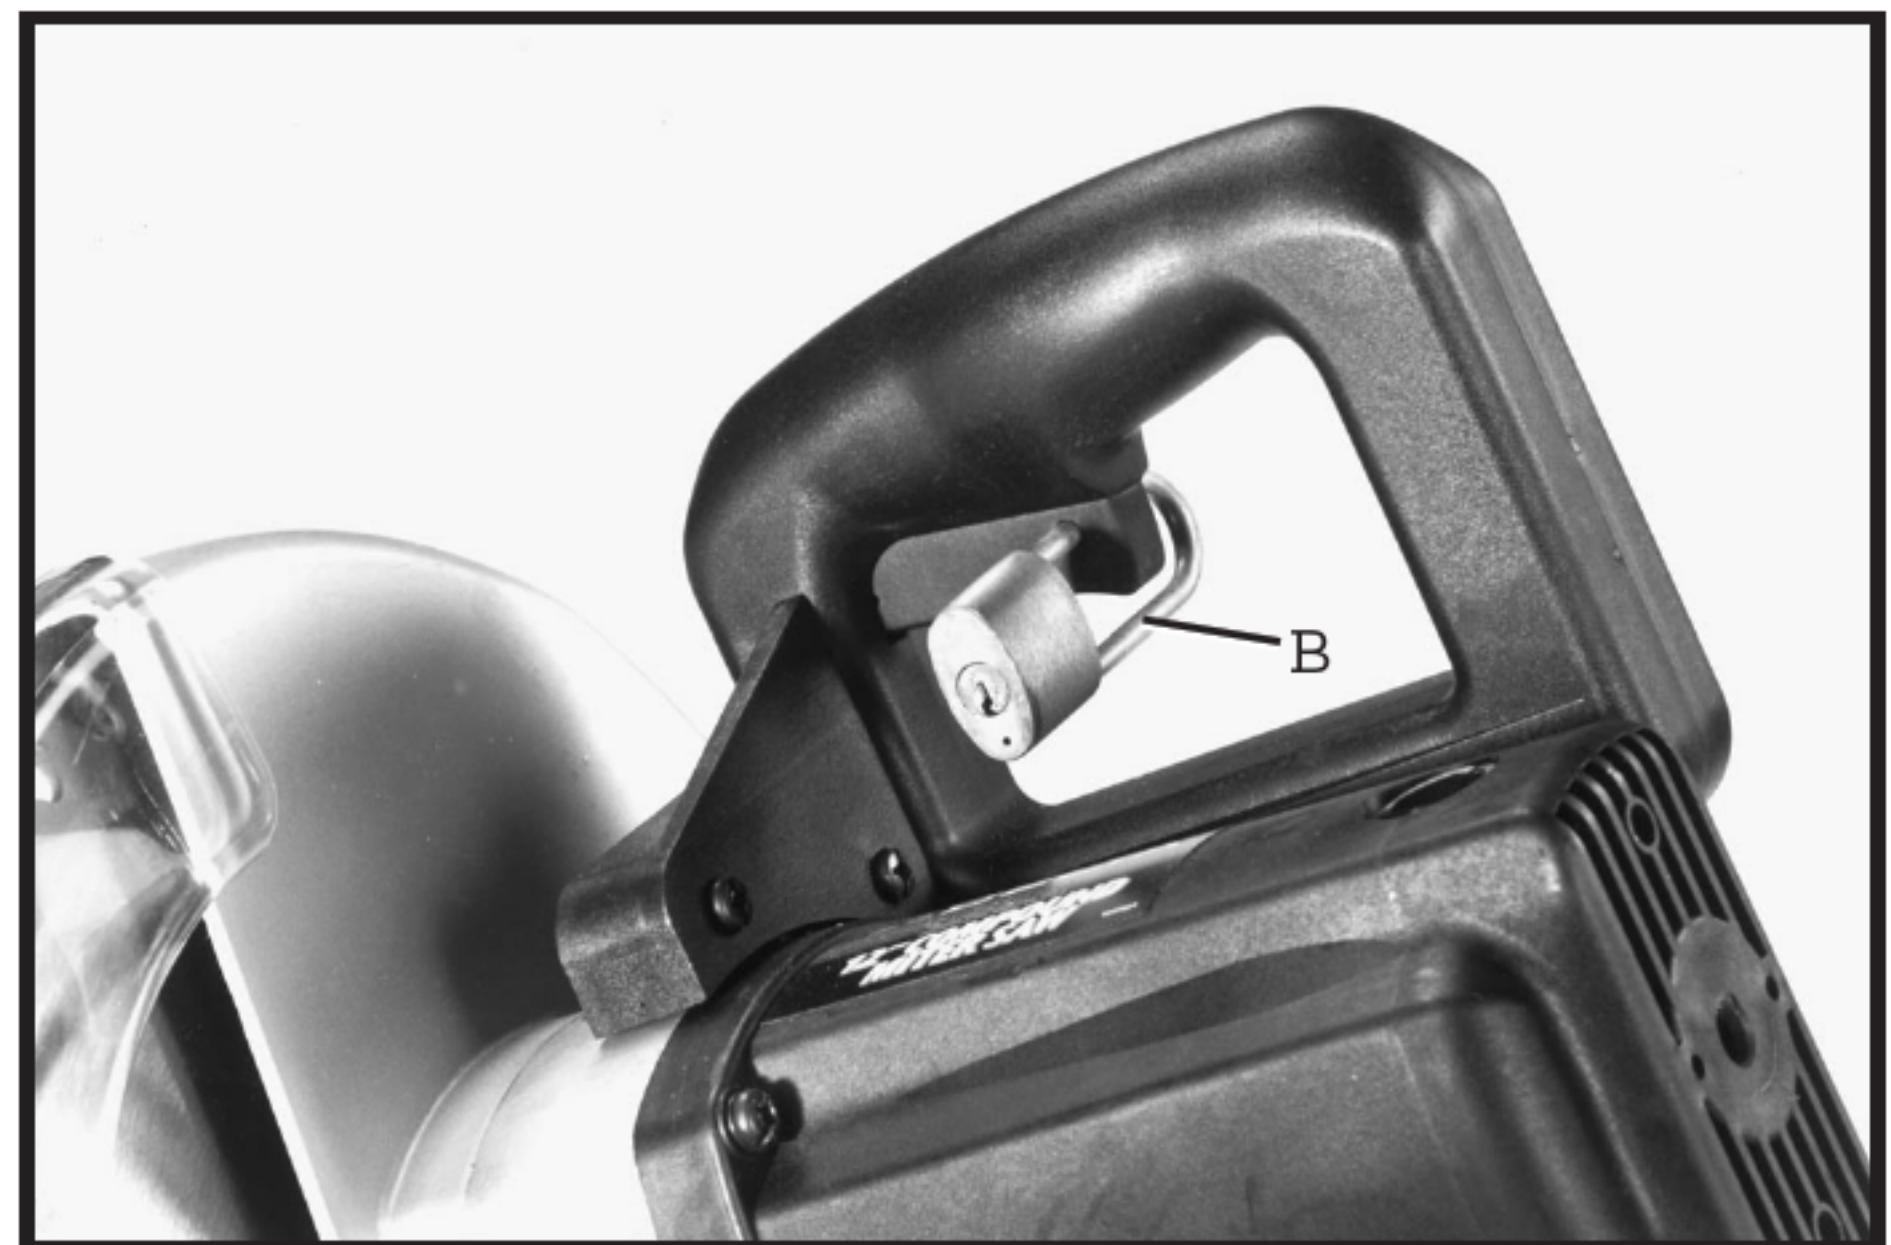

Fig. 16
IMPORTANT: We suggest that when the miter saw is not in use, the switch be locked in the OFF position using a padlock (B), as shown in Fig. 16. Available as an accessory from Delta is the 50-325 padlock, shown at (B).